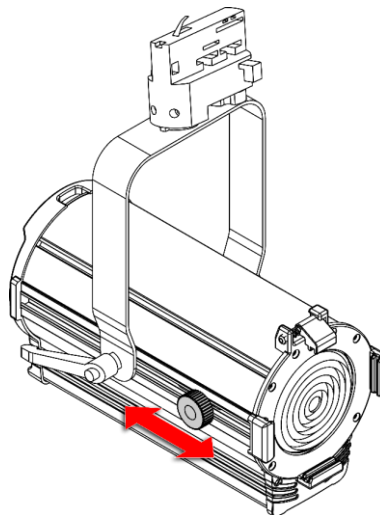

Fig. 22
- 01) Turn the **zoom control (10)** counterclockwise to loosen it.
- 02) Slide the **zoom control (10)** forwards or backwards to achieve the desired beam angle (see Fig. 22).
- 03) After adjusting the beam angle, turn the **zoom control (10)** clockwise to tighten it. Do not overtighten it.